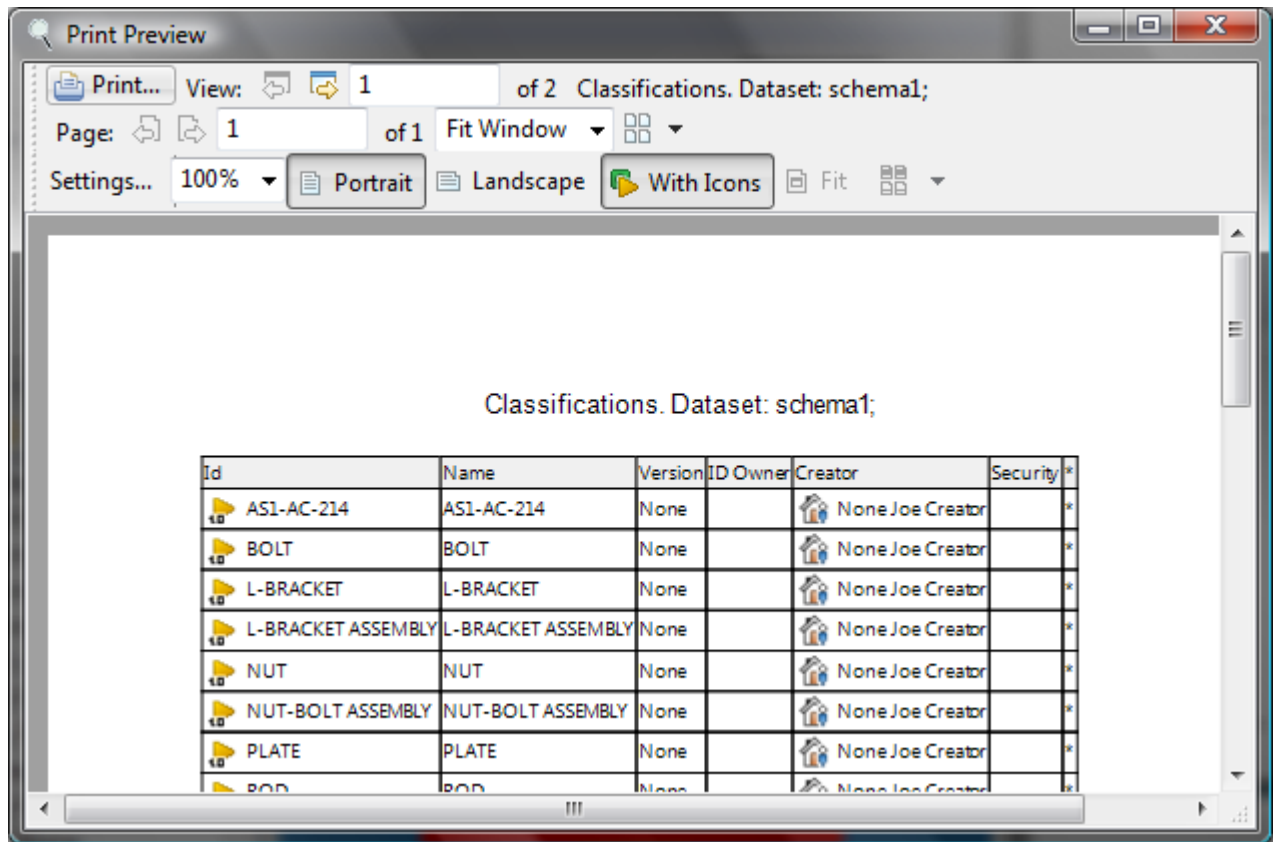

Figure 4. Print preview page with one of selected views
The **Print preview** window appears with recently selected views (see Figure 4).
- **With Icons** button - to switch On/Off showing of icons in the table/tree of the active view preview page (see Figure 4, the option is switched On.).